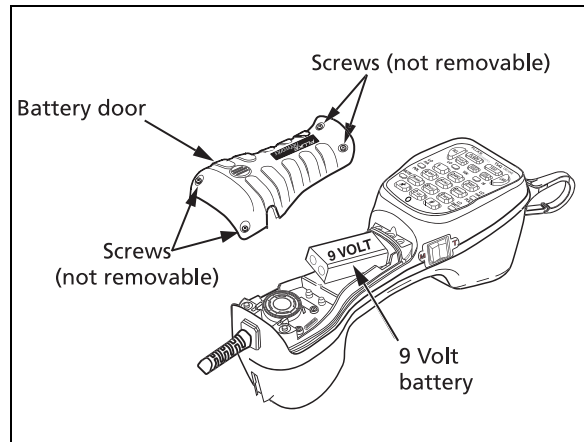

Figure 4. Battery Replacement
See Figure 4.
- 1 Using a Phillips screwdriver, loosen only the four screws attaching the battery door cover to the back of the test set (See Figure 4).
- 2 Remove the battery door cover (see Figure 4) and battery from the test set.
- 6 Place the battery door cover on the test set and fasten the four screws (see Figure 4). Tighten screws to a maximum torque of 0.904 N-m or 8 in-lb.